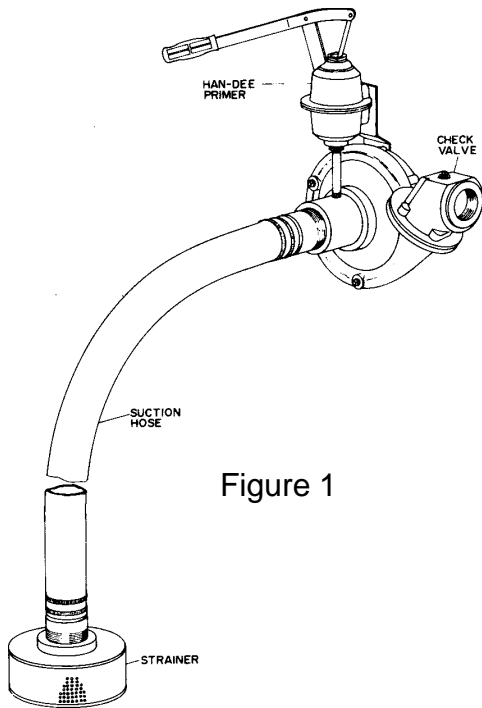

Figure 1
- c) **Suction Hose:** Use non-collapsible suction hose or pipe. Line size should be at least as large as the suction side tapping of the pump. Do not use concentric fittings or pipe reducer bushings to increase the size of suction pipe. Eccentric fittings should be used and should have an angle no greater than 28°. Valves should not be installed in a suction line unless coupled with a booster pump. Never throttle a pump from the suction side. A straight pipe length at the pump's suction entrance should be at least six times the suction diameter. All threaded pipe joints and connections should be thoroughly tightened. A horizontal suction line must have a gradual upward slope to the pump so that the highest point in the suction line is at the pump. Leaks in the suction line reduce pump performance. See figures 1&2. When the suction pipe is connected to a tank, a baffle should be installed between the incoming liquid and the suction pipe inlet to prevent air from entering the suction pipe. If the liquid being pumped contains solids, a strainer must be used. The strainer should have a free opening area of at least three times the area of the suction pipe. The end of the suction pipe should be submerged in the fluid a distance of at least four to five times the diameter. Always support lines independently from the pump near the pump casing.